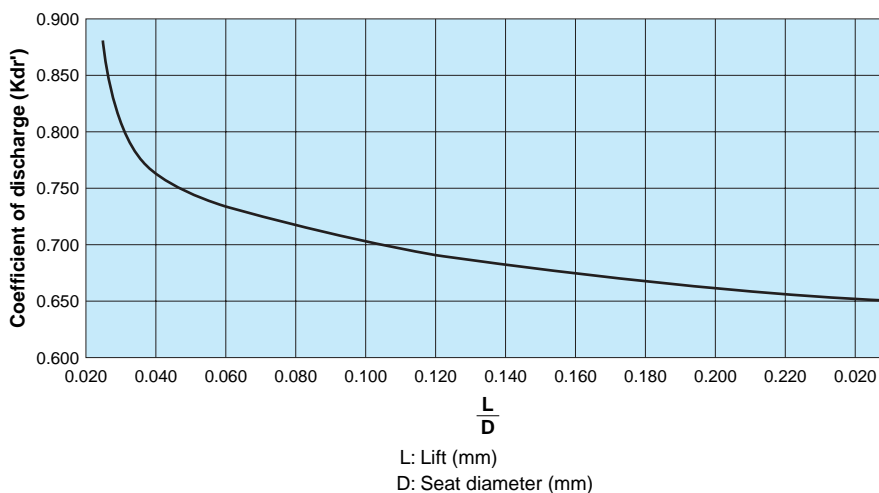

Fig. 2 Coefficient of discharge K_{dr}'
(2) If not measuring certified coefficient of discharge, calculate certified capacity using the value of K_{dr}' in Fig. 2 below instead of K_{dr} in (1). For full bore type safety valve, use K_{dr}' = 0.777.